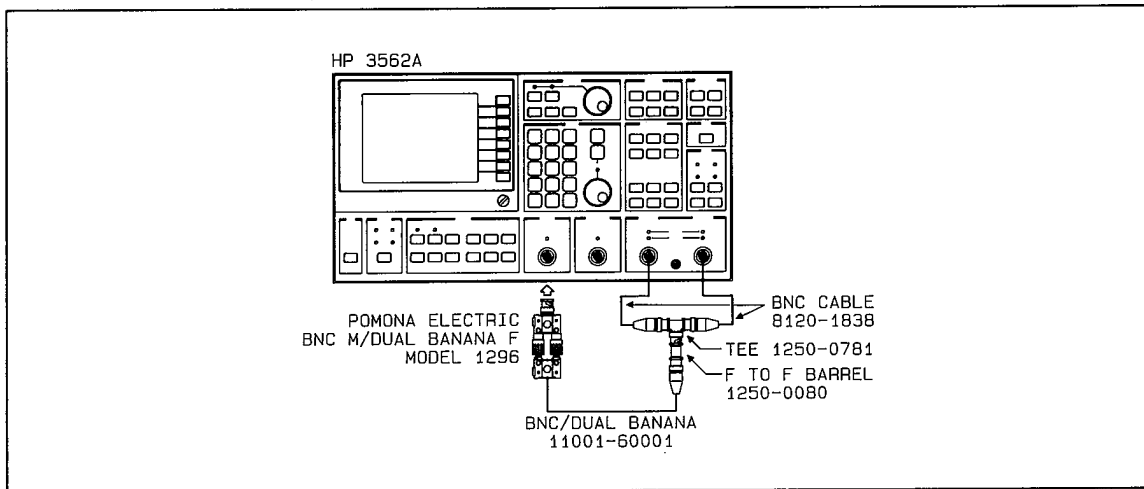

Figure 2-14 Amplitude and Phase Match Test Setup
- A. Connect the HP 3562A as shown in figure 2-14. The cables to channel 1 and channel 2 must be the same length.